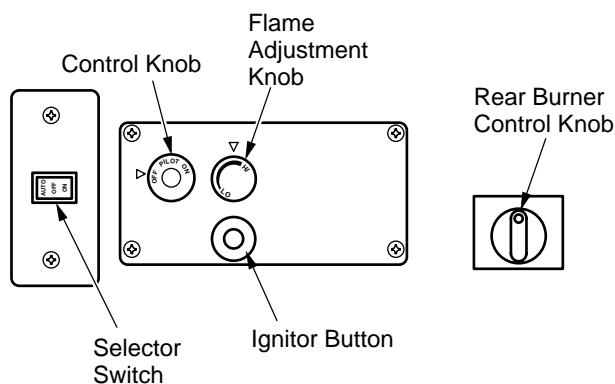

Figure 37 - Control Knobs and Ignitor Button Locations (Shown as Supplied, No Remote Control Operation)
5. Wait five (5) minutes to clear out any gas. Then smell for gas, including near the floor. If you smell gas, STOP! Follow "B" in the safety information, column 1. If you don't smell gas, go to the next step.
6. Press in and turn control knob counterclockwise  to the PILOT position. Press in control knob for five (5) seconds (see Figure 37, page 21).